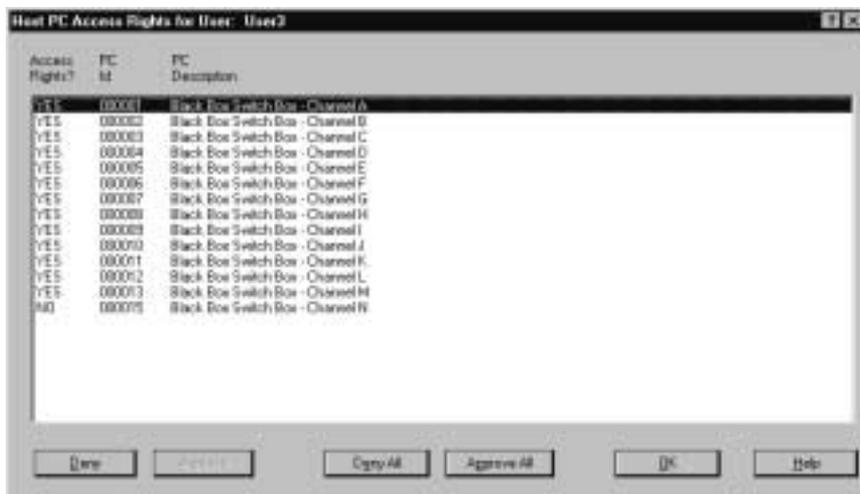

Figure 6-13. The Host PC Access Rights dialog box.
7. Add Non-Supervisor Access rights. (If the user has Supervisor access, these boxes will be grayed out.) To set Host PC access rights, click the “View/Modify...” button; the dialog box shown in Figure 6-13 appears. Simply create a list of the PCs that this user will be allowed to access. (By default, access is “approved” [YES] for all computers; “deny” [change to NO] any computers this user should not access.)